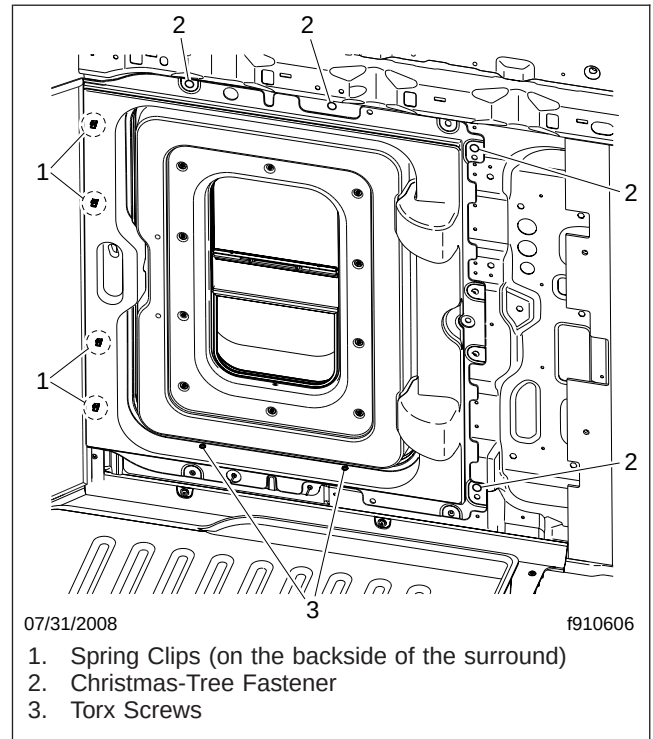

Fig. 2, Door Surround Fasteners
6. Remove the door surround. It is attached to the cab with four spring clips, two Torx screws, and four Christmas-tree fasteners; see Fig. 2.
13. Install the door surround, pushing the spring clips along the aft edge into the holes on the cab wall. Install the Christmas-tree fasteners and Torx screws to secure the top, bottom, and forward edges of the surround; see Fig. 2.